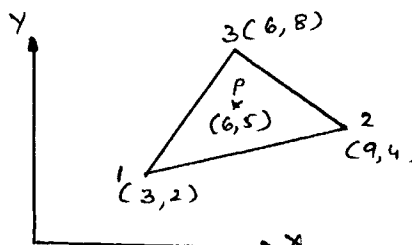

Fig. Q3(b)
- b. Find the shape functions at point P for the CST element shown in Fig. Q3(b). Also find the area and Jacobian matrix for the element. (08 Marks)